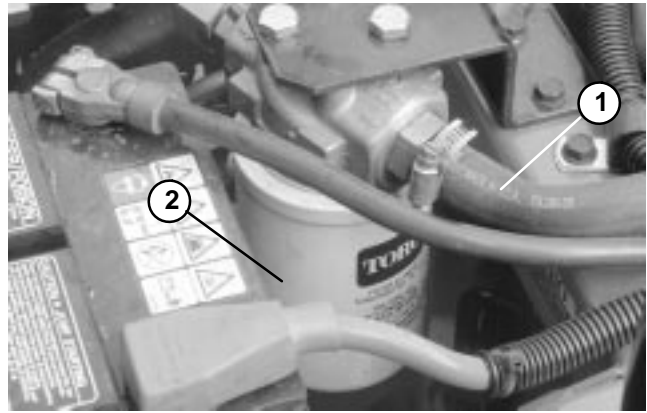

Figure 22
- D. If the oil cooler is **not** installed, disconnect hydraulic hose from the hydraulic oil filter (Fig. 22).